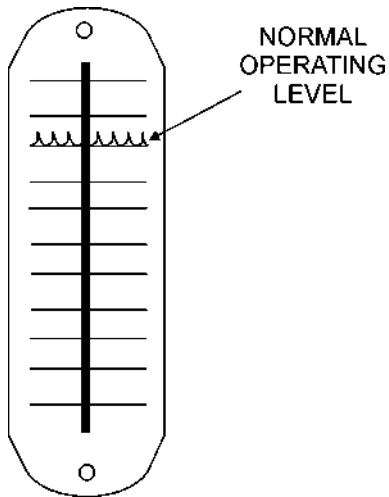

Figure 8. Hydraulic Sight Glass
3. Visually read the hydraulic sight glass (Figure 8) to see if the hydraulic oil level is low.